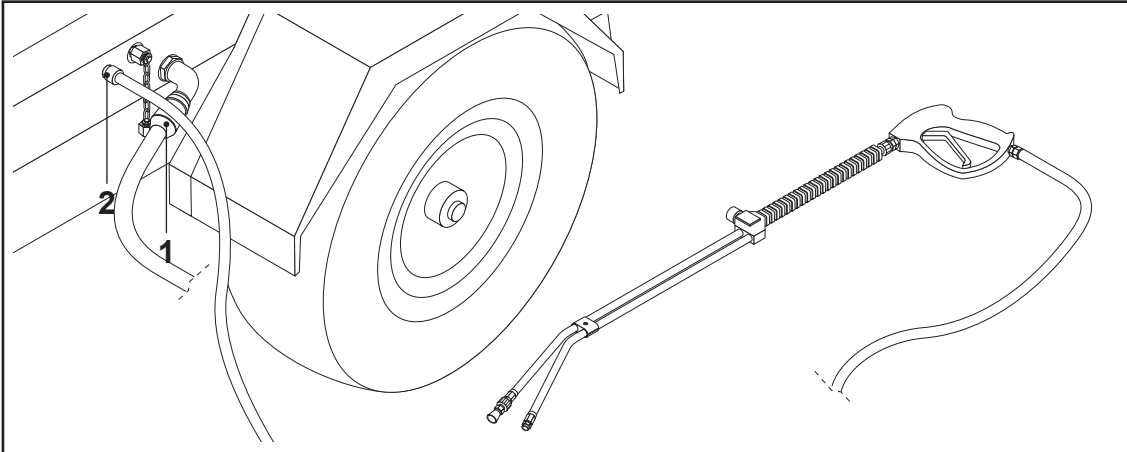

FIG.38
- the drawing point is at least 50 cm above the coupling (FIG. 38-REF. 1)
- Connect the nozzle together with its delivery hose to the coupling (FIG. 38-REF. 2).